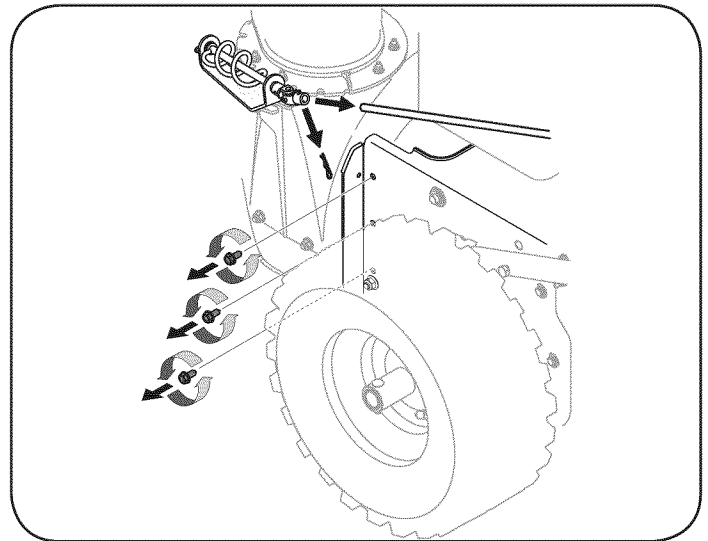

Figure 29
1. Remove the chute crank rod from the chute crank assembly by removing the hair pin clip shown in Figure 29. Move the chute crank rod away from the assembly as shown.
2. Remove three self-tap screws on both sides of the transmission housing as shown in Figure 29.
3. From both sides of the the frame assembly, use a 1/2" wrench to remove the three hex tap screws securing the frame to the auger housing assembly. Refer back to Figure 29.